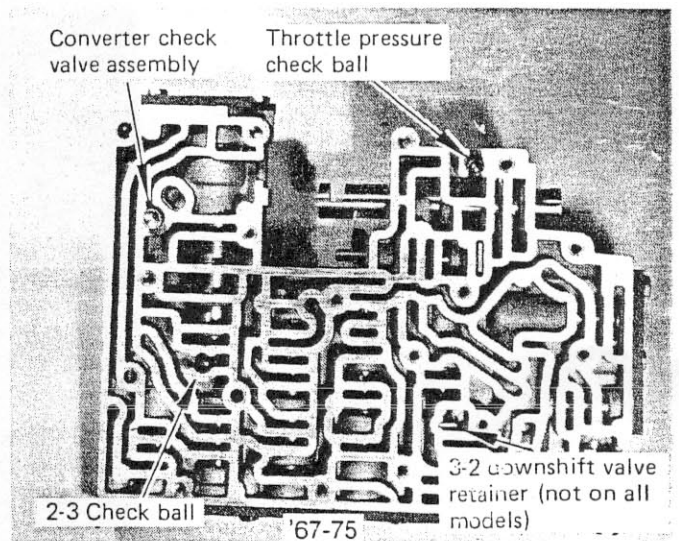
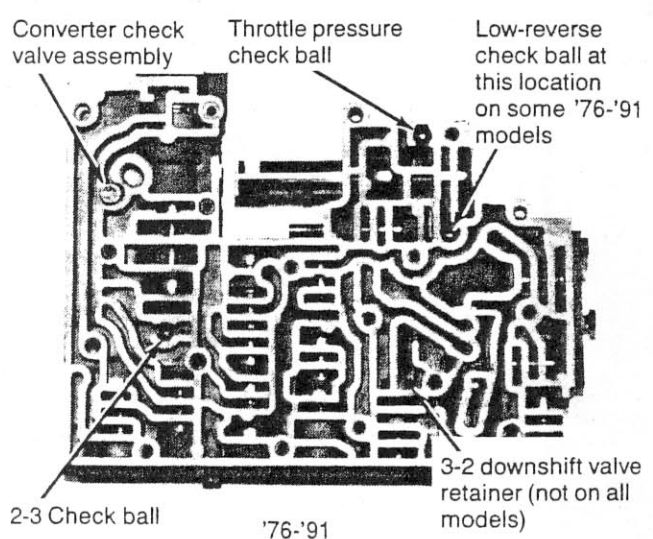

FIGURE 6
FIGURE 6A
This is a small steel valve or ball with a fine pitch spring. (See Fig. 6) Set them aside so they won't be confused. (The check valve may be stuck to the separator plate). Remove the throttle pressure check ball assembly. (See Fig 6 or 6A) This ball uses a coarse pitch spring. Set it aside so it won't be confused. Remove the 2-3 check ball from its pocket. (See Fig. 6) Do not loose the 3-2 downshift valve retainer. Note: Some later models have a low-reverse check ball. (See Fig. 6A) remove and set aside.
**STEP 13.** Lay casting on bench with passages facing up. Install converter check valve assembly into place. (See Fig. 6) Install throttle pressure check ball assembly into place. Install 3-2 downshift valve retainer into place. Install low-reverse check ball (if equipped).
**STEP 17.** Install **separator plate - transfer plate** assembly on to **casting**. Make sure check valve assemblies are in position (See Fig. 6). Make sure throttle pressure check ball contacts